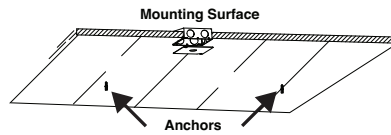

Fig. C-2
4. Nail the anchors at each mark on the mounting surface. Drill the self-tapping screws at the marks. (**Figure C-2**)